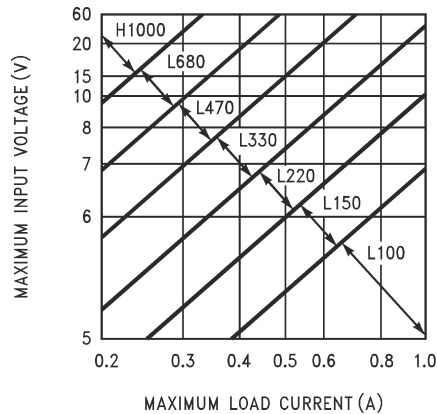
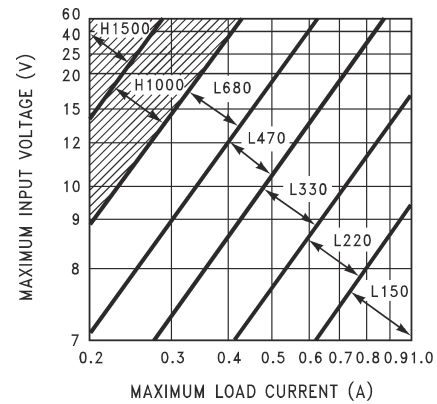
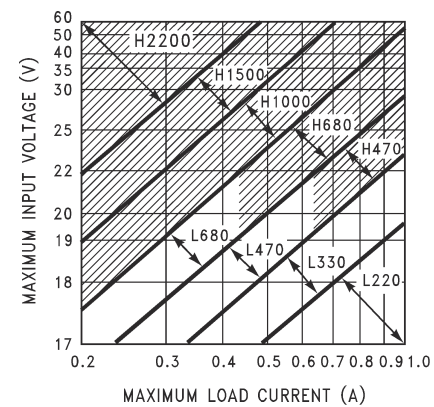

Figure 9-2. TL2575-33
Figure 9-3. TL2575-50
Figure 9-5. TL2575-15
1. Inductor Selection (L1) A. From Figure 9-2 through Figure 9-5 , select the appropriate inductor code based on the intersection of $V_{IN(Max)}$ and $I_{LOAD(Max)}$. B. The inductor chosen should be rated for operation at 52-kHz and have a current rating of at least $1.15 \times I_{LOAD(Max)}$ to allow for the ripple current. The actual peak current in L1 (in normal operation) can be calculated as follows: $I_{L1(pk)} = I_{LOAD(Max)} + (V_{IN} - V_{OUT}) \times t_{on} / 2L1$ Where $t_{on} = V_{OUT} / V_{IN} \times (1 / f_{osc})$	1. Inductor Selection (L1) A. From Figure 9-3 (TL2575-05), the intersection of 20-V line and 1-A line gives an inductor code of L330. B. L330 $\rightarrow$ L1 = 330 μ H Choose from: 34042 (Schott) PE-52627 (Pulse Engineering) RL1952 (Renco)